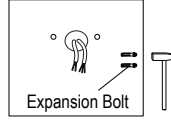

Figure 26
Step 2: Insert the expansion bolts into the wall (Figure 26).